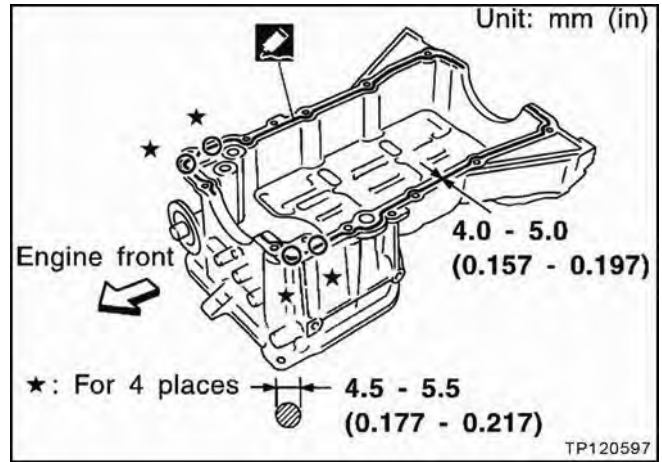

Figure 79
93. Apply sealant to the top side of the upper oil pan as shown in Figures 79 and 80.